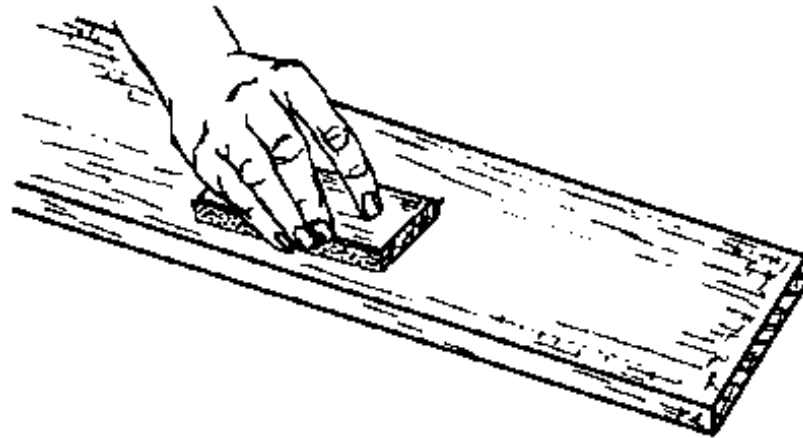

Fig. 3
- Wrap it part way around a flat block of wood (Fig. 3).